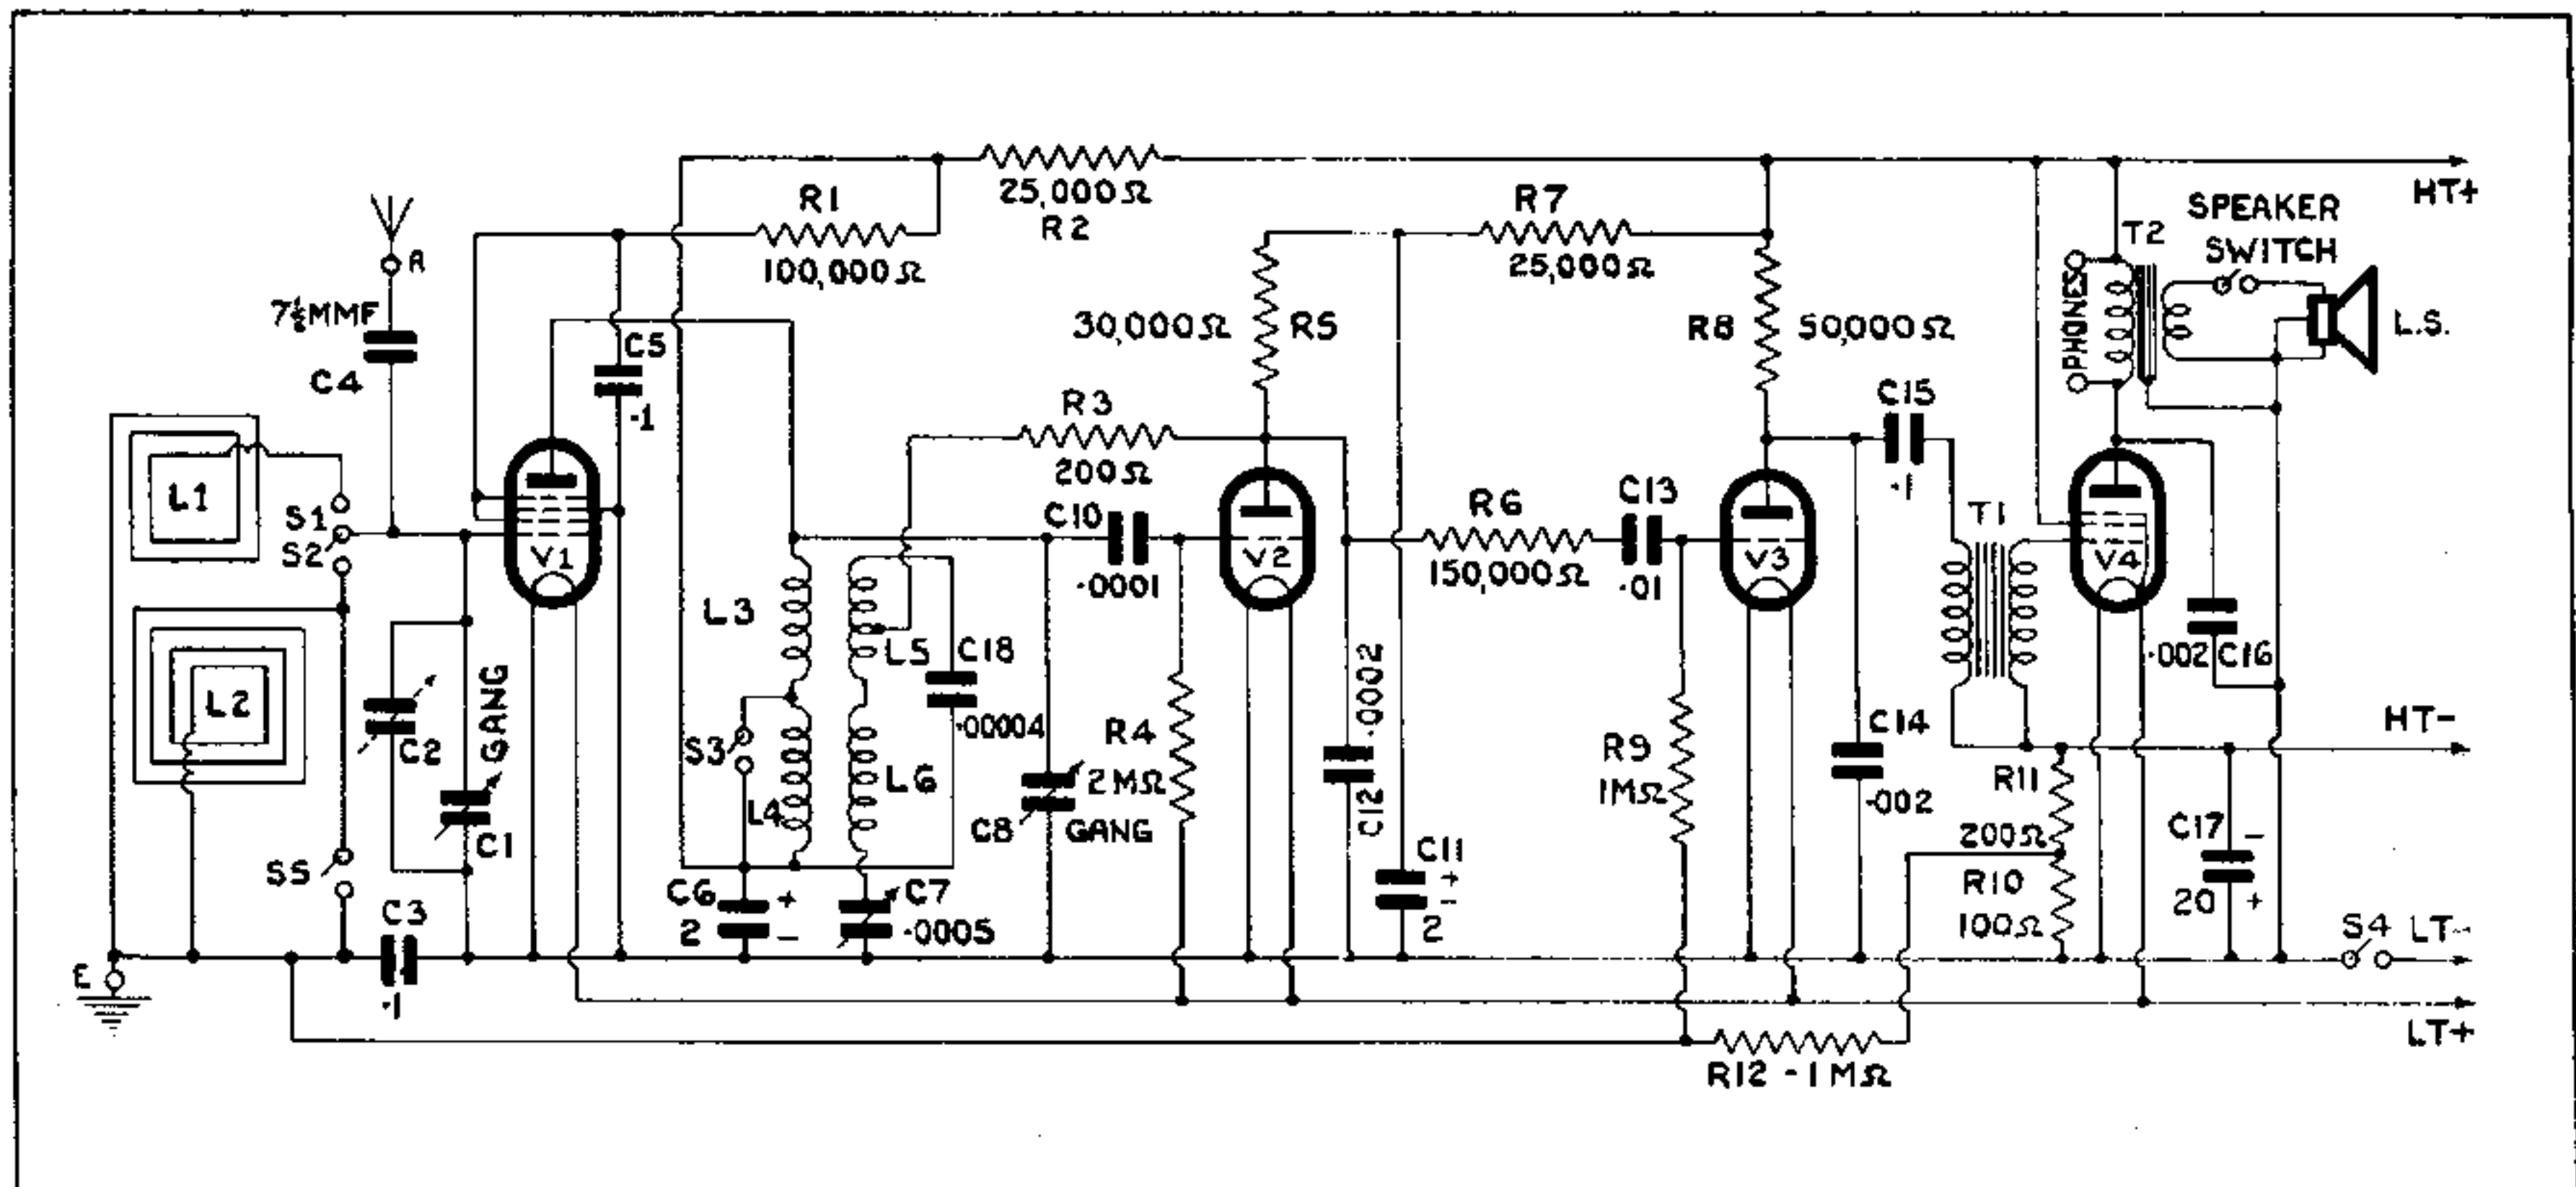

Fig. 1. Circuit diagram of Ekco Model P148.
**Resistances.** All resistances are indicated in Figs. 1—4.